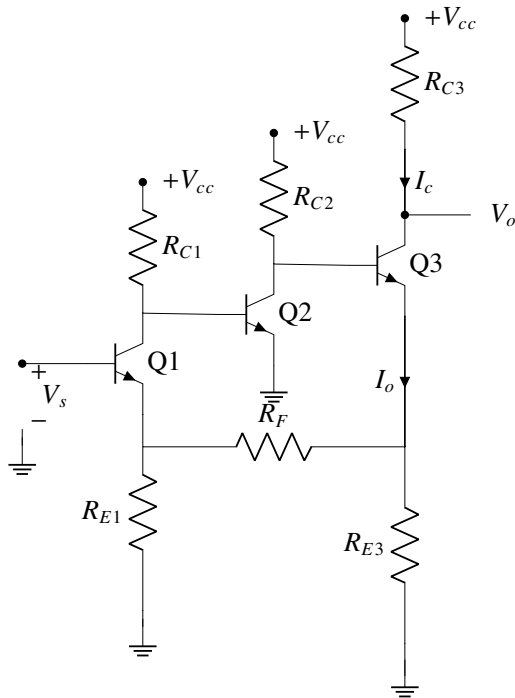

Fig. 1.0.1: circuit1
1.0.1. Part of the circuit of the MC1553 Amplifier is shown in circuit1 in fig.1.0.1 Assume the loop gain is large, find an approximate expression and value for the closed loop gain $T = \frac{I_o}{V_s}$ use values from Table 1.0.1